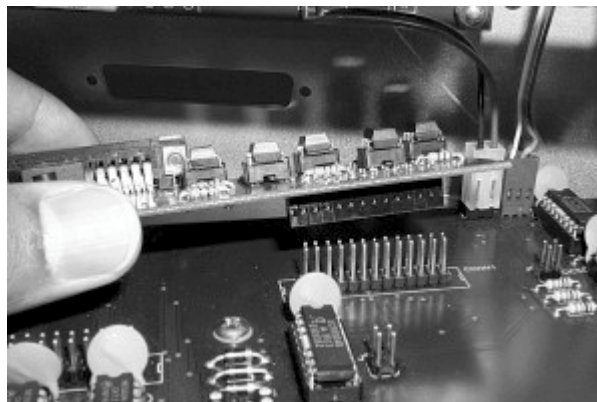

**Figure 1-14**
11. Remove the Main board. See Figure 1-14.